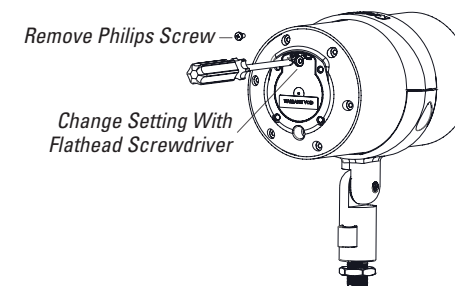

Figure 19
3. The L41XC speaker ships with the transformer set to 60W and **must be re-set to BYPASS**. Use a Phillips head screwdriver to remove the protective Phillips screw as shown in Figure 19.